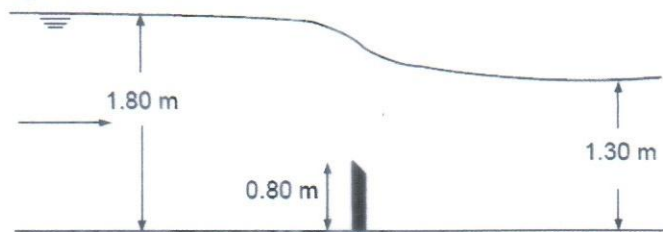

Figure 2.
- (b) A sluice gate controls the flow in a channel of width 4.0 m. If the discharge  $Q$  is  $1.5 \text{ m}^3/\text{sec}$  and the upstream water depth is 2.5 m, calculate the downstream depth and the force acting on the sluice gate. CO1-PO1: (08)
- (c) Figure 2 shows a submerged flow over a sharp-crested weir in a rectangular channel. If the discharge is  $1.8 \text{ m}^3/\text{s/m}$ , estimate the energy loss due to weir. What is the force acting on the weir? CO1-PO1: (06)